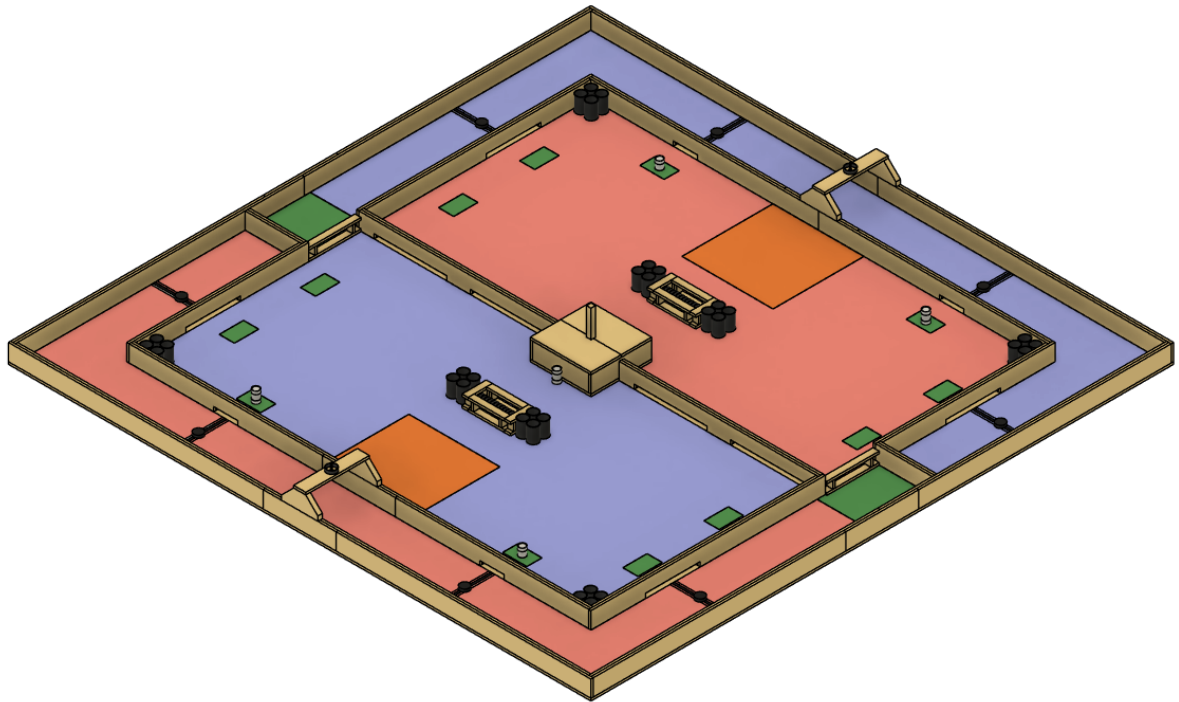

Figure 2: Overall Court
- 4.1.1.3. As shown in Figure 2 above, the red area is one team's exclusive play area, and the blue area is the exclusive play area for the second team.